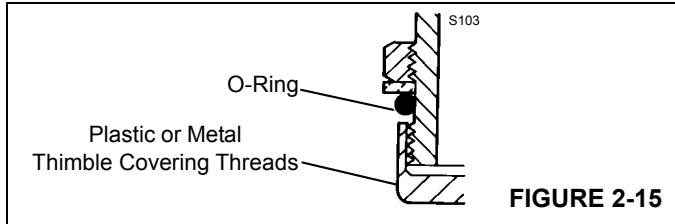

FIGURE 2-15
- Be careful not to cut O-rings when assembling them to fittings. Use thimble as shown in Figure 2-15 when assembling O-ring over threads.